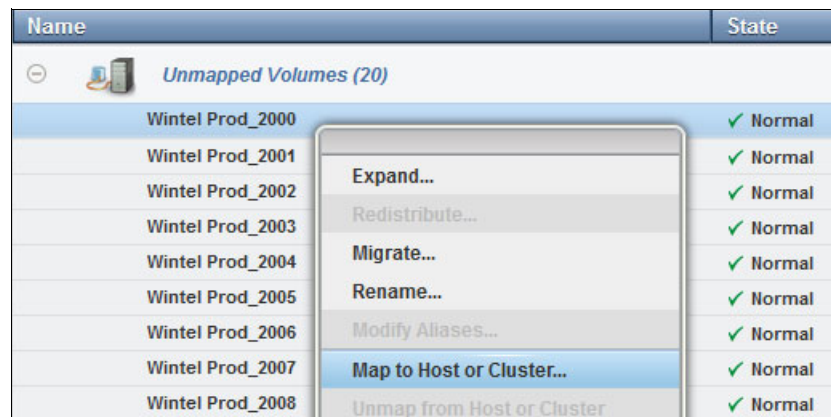

Figure 11-63 Map unmapped volumes to a host or cluster
2. The Volumes by Hosts menu opens. Select the volumes to map from the **Unmapped Volumes** list, as shown in Figure 11-63. From the Actions tab, or by right-clicking, select **Map to Host or Cluster**.